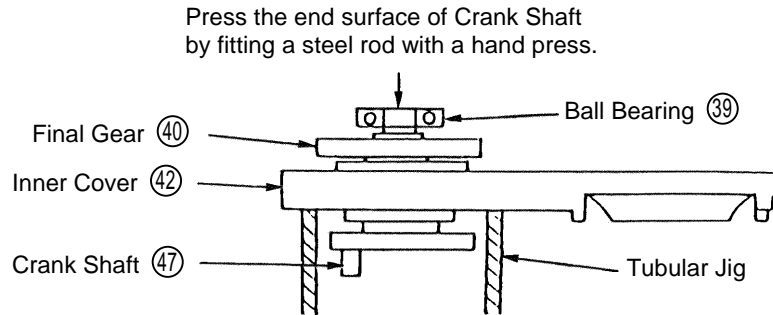

Fig. 5
Then, as illustrated in Fig. 5, support the lower surface of the Inner Cover (42) with an appropriate tubular jig, align an appropriate steel rod with the end surface of Crank Shaft (B) (47), and press down on the steel rod with a hand press. The 6205 DDCM Ball Bearing (44), Distance Ring (B) (41), the Final Gear (40), the two Woodruff Keys (75), and Crank Shaft (B) (47) can then be disassembled from the Inner Cover (42).